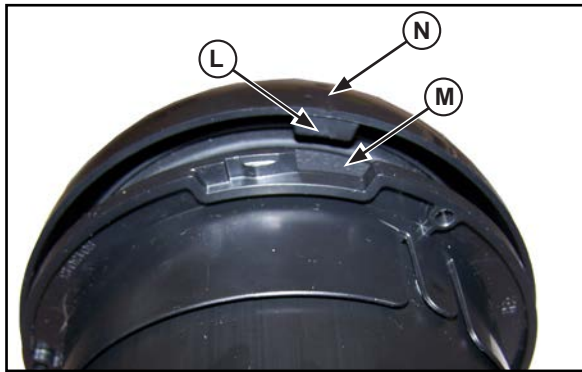

Figure 3. Installing Bezel onto Flange
6. Install bezel (with gasket) onto tube, aligning three tabs (L) on bezel with notches (M) on flange. Rotate clockwise until you feel and hear an audible click, securing assembly together. See Figure 3.
5. Install bezel (with gasket) onto tube, aligning three tabs (L) on bezel with notches (M) on flange. Rotate clockwise until you feel and hear an audible click, securing assembly together. See Figure 3.